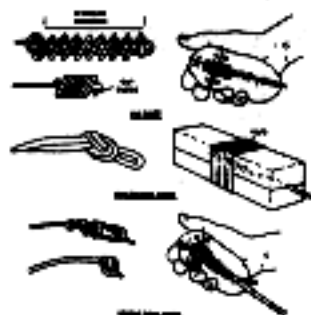

Figure 15-12. Detonating cord priming of plastic explosive
(1) Detonating cord-priming. To prime plastic explosives with detonating cord, form either of the three knots shown in figure 15-12.
(2) Insert the knot into a block of explosive or a molded piece of explosive. For positive detonation, ensure that there is at least 1/2 inch of explosive in all sides of the knot.